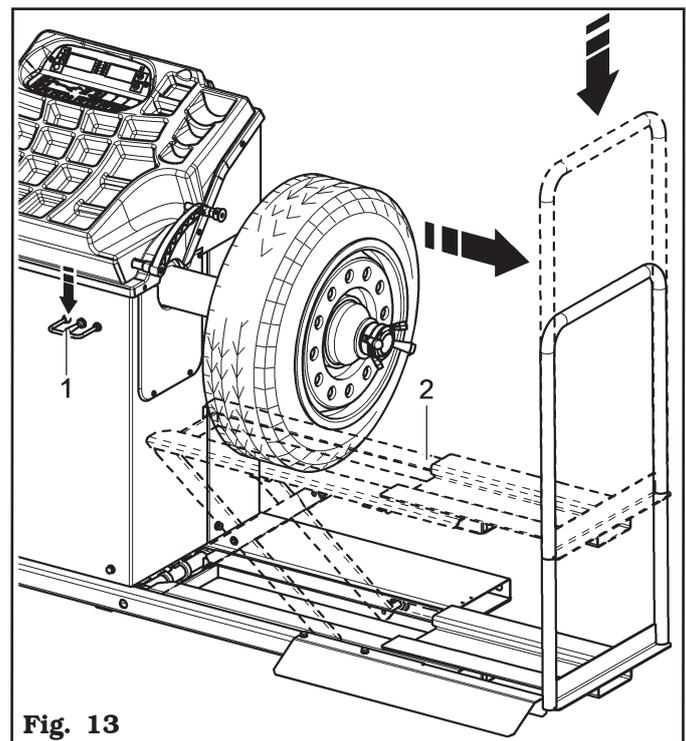

Fig. 13
6. Lower the lifting device control (**Fig. 13 ref. 1**) and then lower the footboard (**Fig. 13 ref. 2**).